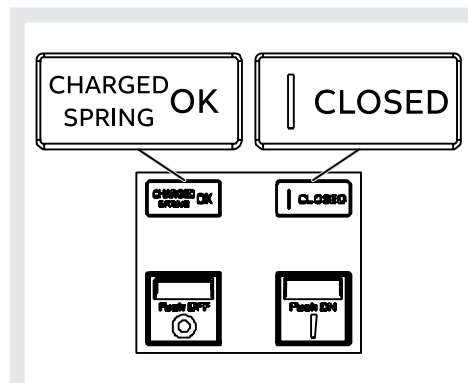

Figure 38
4. Circuit-breaker closed with springs charged (see Figure 38). This state occurs when, after closing, the springs are charged in the manual mode or automatically by the gear motor (if provider for).